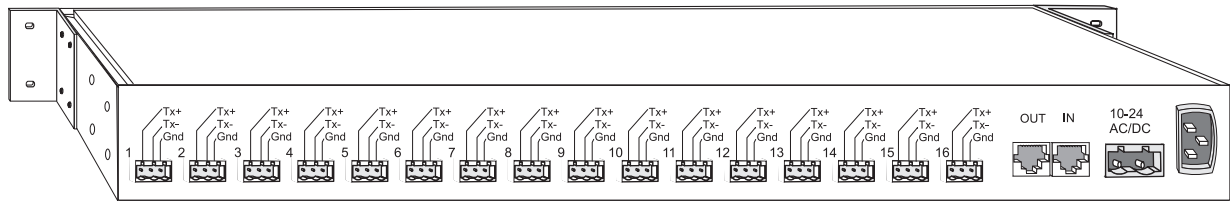
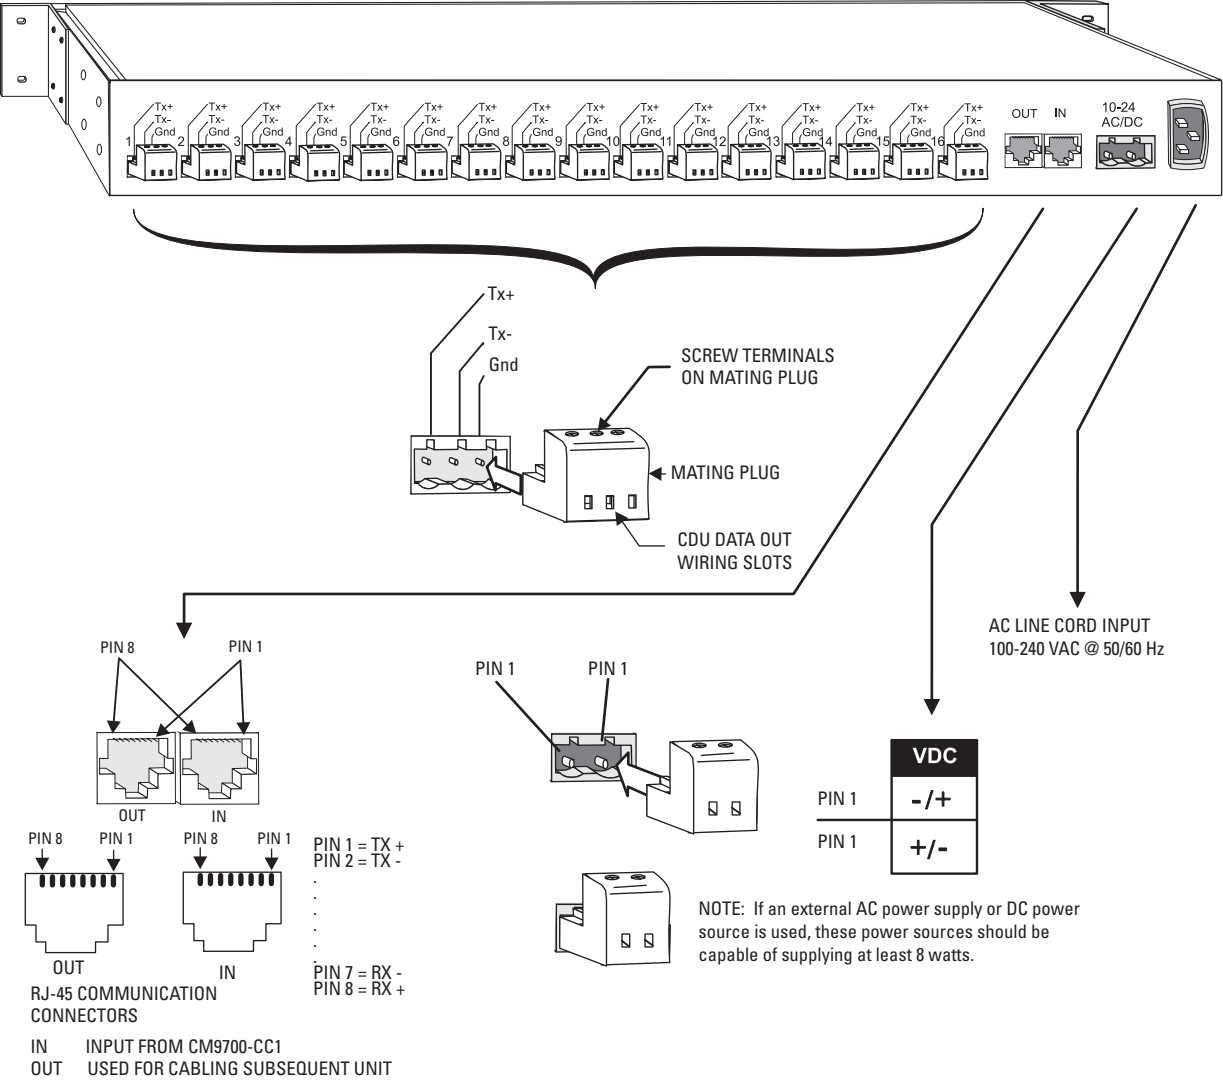

Figure 2. CM9760-CDU-T, Rear View
Figure 3. CM9760-CDU-T, Rear View Connector Details
- Two-pin terminal connector (refer to Figure 3) for an external 10 to 24 VAC/VDC power source
Figure 2 illustrates the rear (working side) of the CM9760-CDU-T unit. Note the three-position terminal screw data output lines numbered 1–16, from left to right. Next to that are the RJ-45 female IN/OUT communication ports and the external, two-pin, independent power input. Finally, the standard AC power input cord connection is on the far right.
Figure 3 further details the mating plugs, pin-outs, and so on pictured in Figure 2. Note that for externally supplied power sources, the DC supply hook-up can handle forward or reverse hook-up of the input source. The internal bridge can handle either polarity. There are no polarity concerns with an externally supplied AC power source.